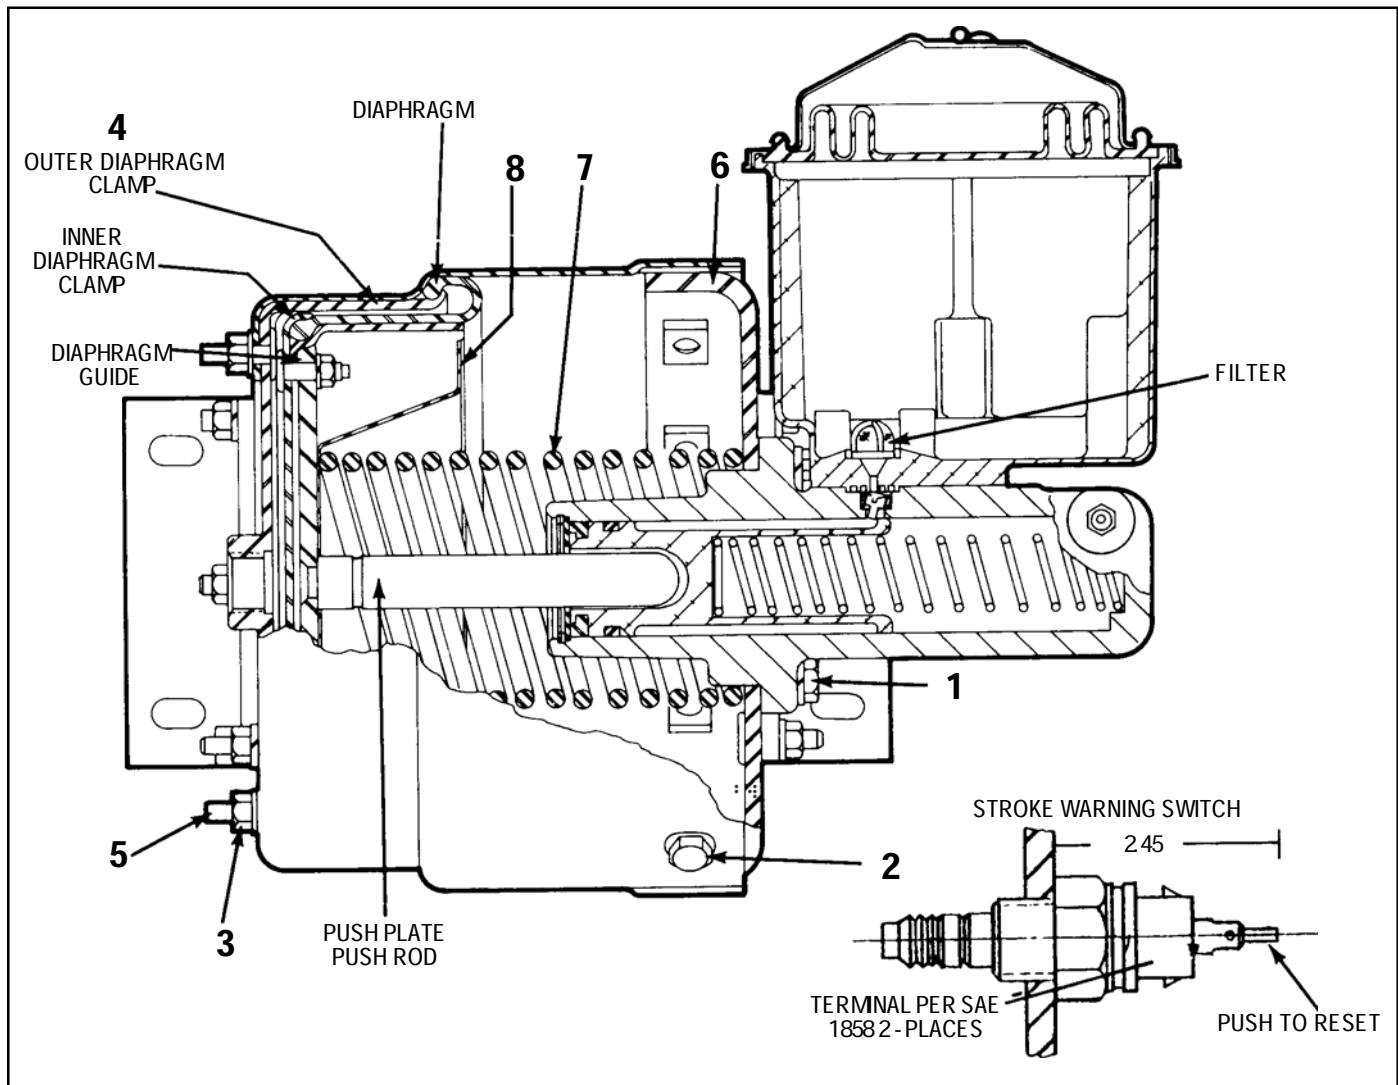

FIGURE 1
The master cylinder may have a remote or direct mounted reservoir. Fig. 1 shows a 23.5 to 1 unit with integral reservoir.
Rotochamber from Master Cylinder FIGURE 1
1. Position the diaphragm on end in the inner diaphragm clamp (Fig. 1). The smaller diameter end of the diaphragm should be against the diaphragm clamp.